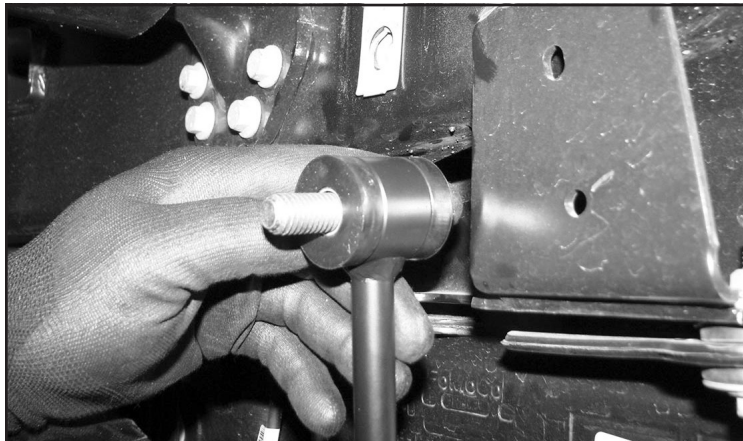
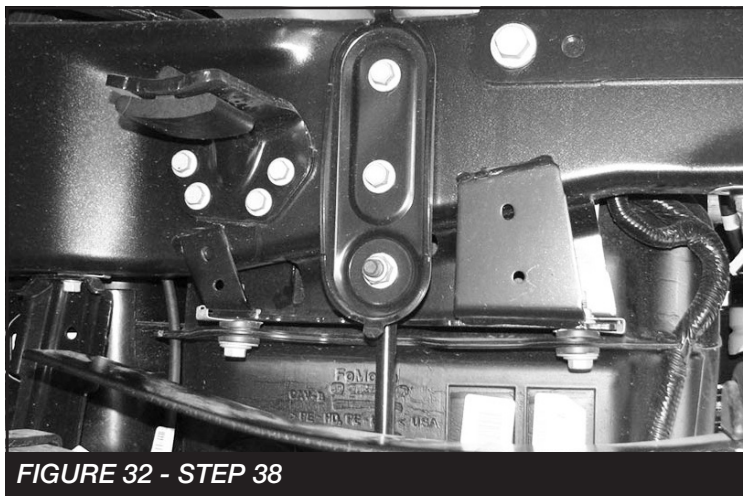

FIGURE 31 - STEP 38
FIGURE 32 - STEP 38
38. Install the FT1004 (Bushings) and FT50089 (Sleeves) into both FT30784 (End Links). Install the new end links to the factory brackets using the supplied 1/2" X 2-1/2" hardware. **NOTE: Install the bolt from the back side. SEE FIGURE 31** Install the brackets/Tie rods to the frame and sway bar using the factory hardware for the frame mount and the supplied 1/2 X 2-1/2" hardware at the sway bar location. Torque to 127 ft-lbs. **SEE FIGURE 32**